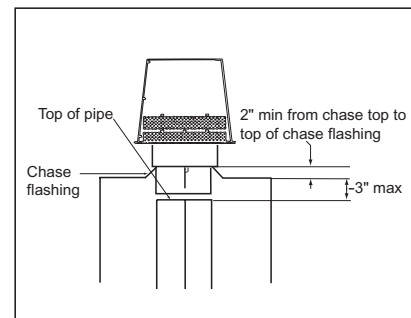

Figure 20E - Installing a TS345/TS345P Square Termination Cap
- For installation utilizing a TS345/TS345P Square Termination Cap, the uppermost chimney section must not be more than 3" below the chase top. See Figure 20E.